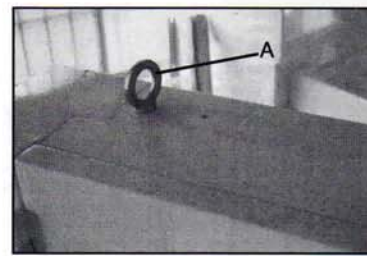

Fig. 1
- a. Use a 2000kgs wrecker hang up the machine on parts A (Fig. 1) to suitable space.